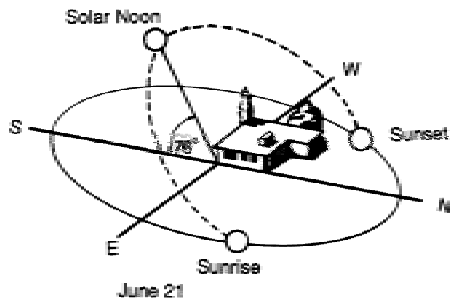

Figure 2. Angle of summer sun is 76 degrees from horizontal at solar noon for 38 degree north latitude.
1. The midday sun is low in the southern sky during winter months and high in the southern sky during summer months (Figures 2 and 3). Plot the southern horizon, trees, and buildings on a sunchart (Figure 1) to determine sunlight availability.